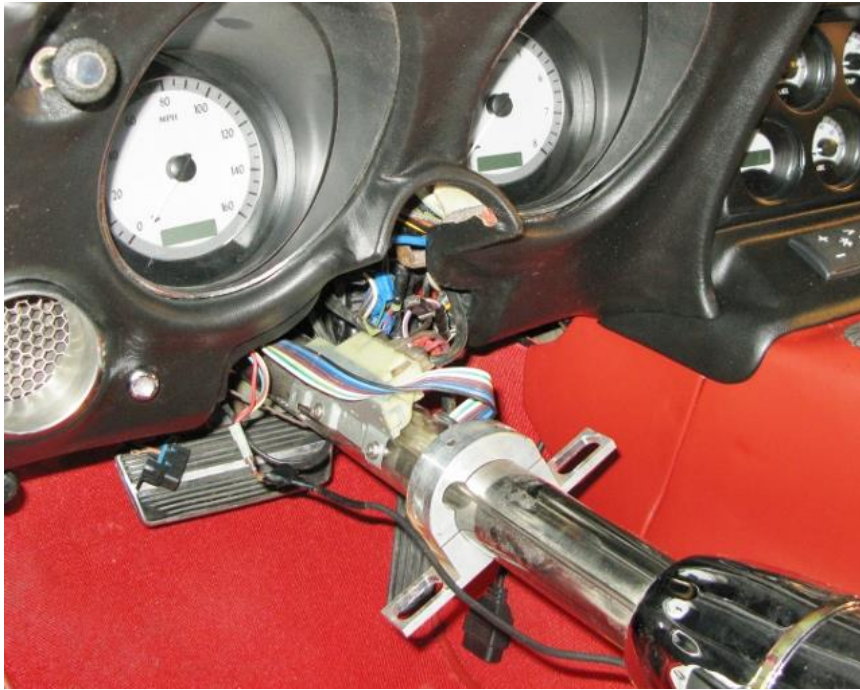

Figure 12 – Remove Steering Column
22. Remove the electrical (ignition switch) switch connection from the lower part of the steering column. There are 2 halves to this connector however they will come out as one. Pull the steering column out of the car. You may need to continue to pry between the coupler and the column and wiggle the column loose. **NOTE:** With an aftermarket column you can pull the steering column out of the coupler while resting the steering wheel on the front seat (Figure 12 on the next page). By not completely removing the column from the vehicle, you can leave the electrical switch connected to the column.